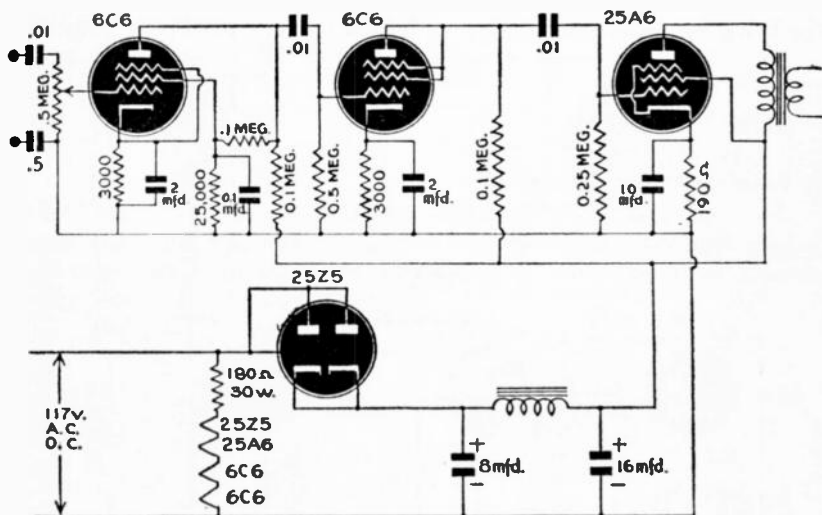

Fig. 304
A. The diagram is shown in Fig. 304. A 76 can be used as the second tube, with a slight loss of gain. A 43 will work as well as the 25A6 in the last stage.